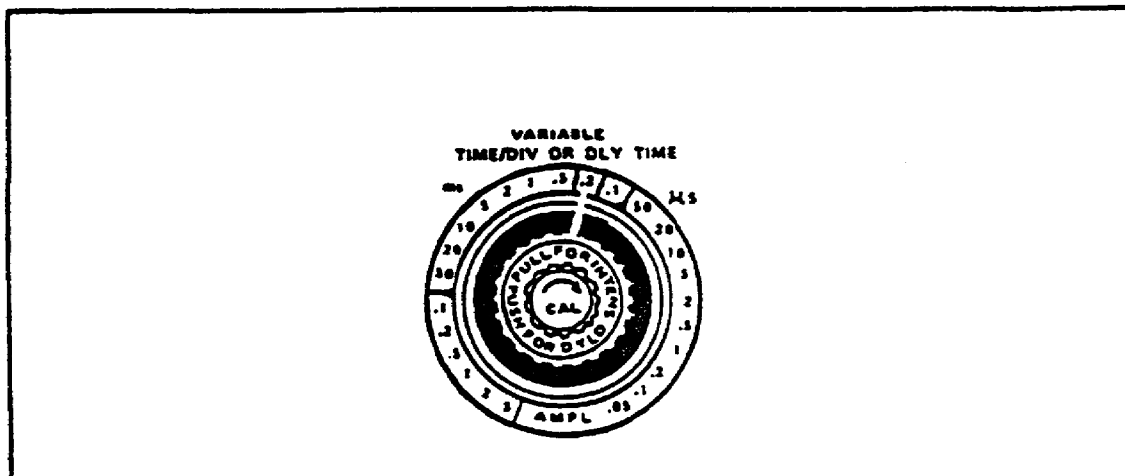

FIGURE 7. TIME/DIV OR DLY TIME CONTROL.
Step 3. Set the TIME/DIV OR DLY TIME control switches (figure 7, below) as follows. Turn the TIME/DIV switch to the .2 ms position. Since the gray DLY TIME switch is pushed in, the two switches turn as a single unit. Turn the VARIABLE (CAL) sweep switch fully clockwise until it clicks. This means that each horizontal square equals .2 millisecond.